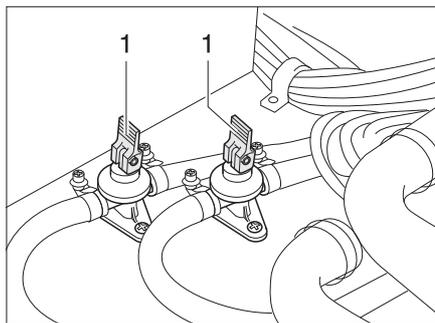

Fig. 132 Drain cocks
- Close the drain cocks. Position the rocking levers (Fig. 132,1) horizontally.
- Open the drain cocks (Fig. 132). Position the rocking levers (Fig. 132,1) vertically. The boiler is drained to the outside using the drain cocks.